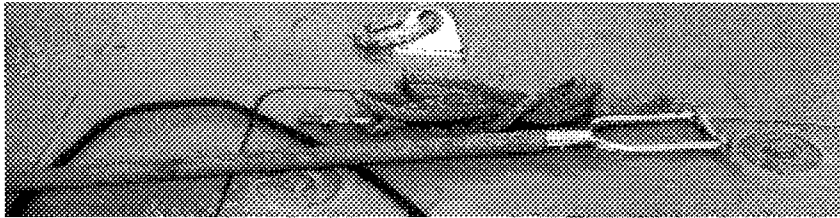

Fig. 3-1 Happy hooker
- (1) The "happy hooker" is the generally preferred buoy reeving device. It is a manufactured device on the end of a long pole. The device is U shaped and has a round pressure activated metal bar across the throat. This bar is connected to a line that is connected to the lifting hook by a snaphook. The device is operated by pushing it over the lifting eye and then pulling it back aboard. The line is then reeved through the eye as the end with the line attached disconnects. Once aboard, the line is pulled to maneuver the hook into the lifting eye (See **Figure 3-1.**)
- (2) A similar mechanical reeving device can be manufactured locally, using drawing FL-2604-5.